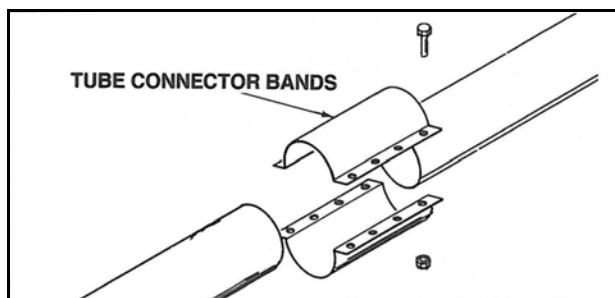

Figure 3.2
3. Slide tube sections together and connect with 2 half-tube connector bands. Secure with 5/16" x 3/4" bolts and washer-locknuts (Figure 3.2.).